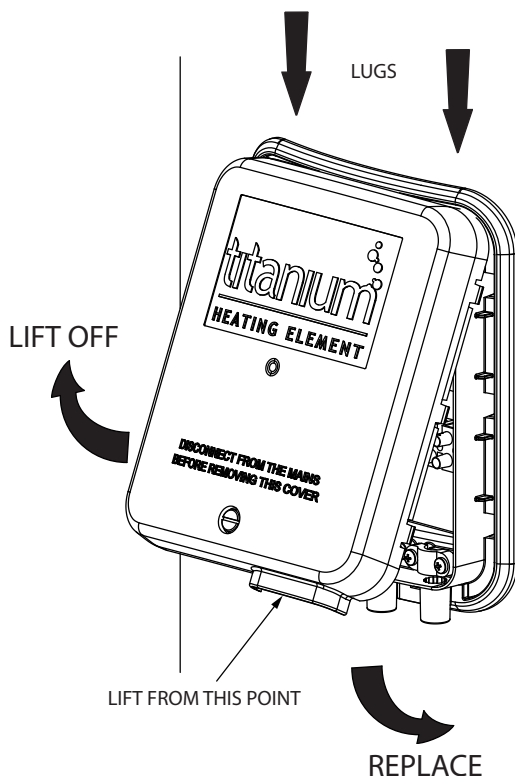

Figure 12: Immersion heater cover removal and replacement
If secondary circulation is required it is recommended that it be connected to the cylinder as shown (see fig. 12, below).
- ▶ The immersion heaters are accessed by removing the Control Cover (see Fig 12).
- ▶ Lift from the bottom of the cover at the point indicated on Fig 12 until cover comes away freely.
- ▶ Replace the Control Cover(s) before operating. To do this tilt the cover and align the top two lugs with the holes in the housing as indicated on Fig 12. Hinge the cover downwards and firmly press the cover until it "snaps" back into place. Secure by tightening the screw on the cover using a flat ended screwdriver. DO NOT OVER TIGHTEN
- ▶ The indirect controls and back-up immersion heater are accessed by removing the Control Cover (see Fig 12).
- ▶ Replace the Control Cover(s) before operating. To do this tilt the cover and align the top two lugs with the holes in the housing as indicated on Fig 12. Hinge the cover downwards and firmly press the cover until it "snaps" back into place. Secure by tightening the screw on the cover using a flat ended screwdriver. **DO NOT OVER TIGHTEN**